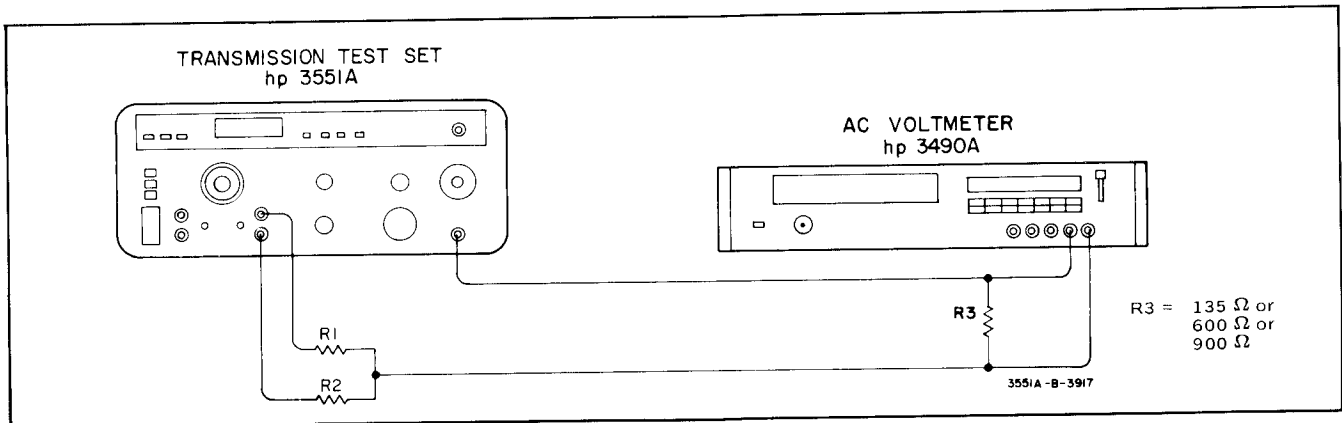

Figure 5-7. Transmitter Balance Test Setup.
e. Connect the equipment as shown in Figure 5-7. Use two 67.5 ohm resistors for R1 and R2.
in Figure 5-7 for R1 and R2. For the 900 position use a 900 ohm resistor in Step a and two 450 ohm resistors in Figure 5-7 for R1 and R2.